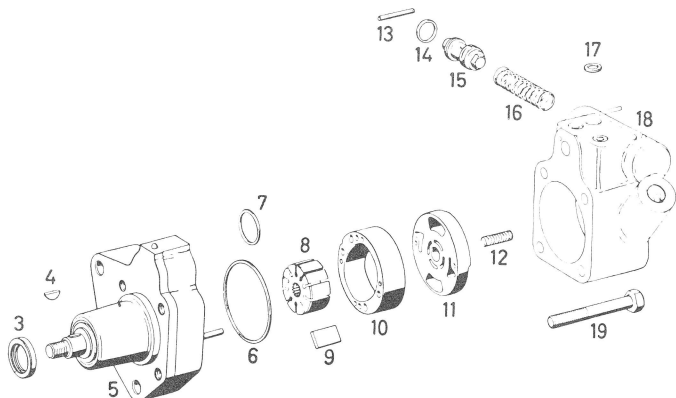

Fig. 2
2 Unscrew hex. bolts (19), by means of which the housing cover (5) is attached to pump housing (18) and remove pump housing (Fig. 2).